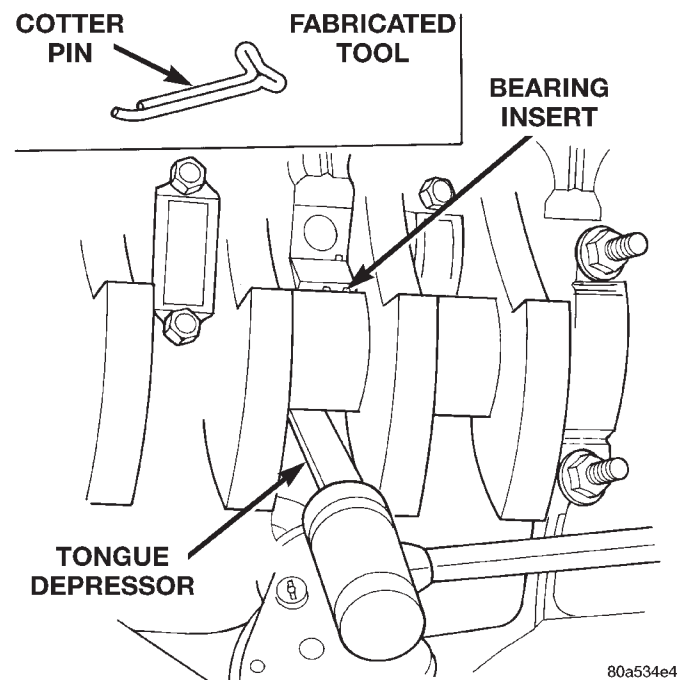

Fig. 55 Removing Upper Inserts
(7) Remove the lower insert from the bearing cap.
(8) Remove the upper insert by LOOSENING (DO NOT REMOVE) all of the other bearing caps. Now insert a small cotter pin tool in the crankshaft journal oil hole. Bend the cotter pin as illustrated to fabricate the tool (Fig. 55). With the cotter pin tool in place, rotate the crankshaft so that the upper bearing insert will rotate in the direction of its locking tab. Because there is no hole in the No.3 main journal, use a tongue depressor or similar soft-faced tool to remove the bearing insert (Fig. 55). After moving the insert approximately 25 mm (1 inch), it can be removed by applying pressure under the tab.
(9) Using the same procedure described above, remove the remaining bearing inserts one at a time for inspection.